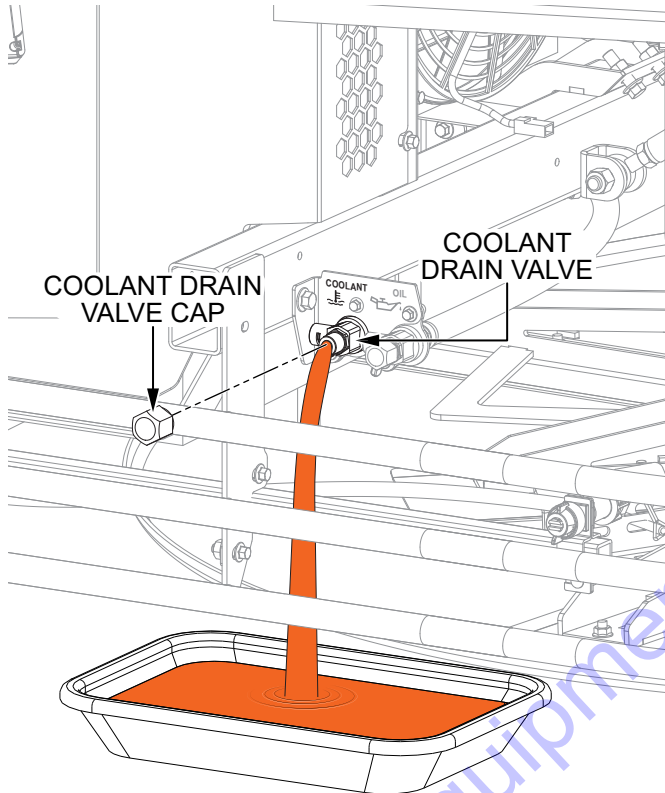

Figure 79. Draining Electric Drive Coolant
2. Place an appropriate container beneath the coolant drain valve (Figure 79) to catch the coolant as it drains.
3. Remove the coolant drain valve cap and open the valve to drain the coolant (Figure 79).